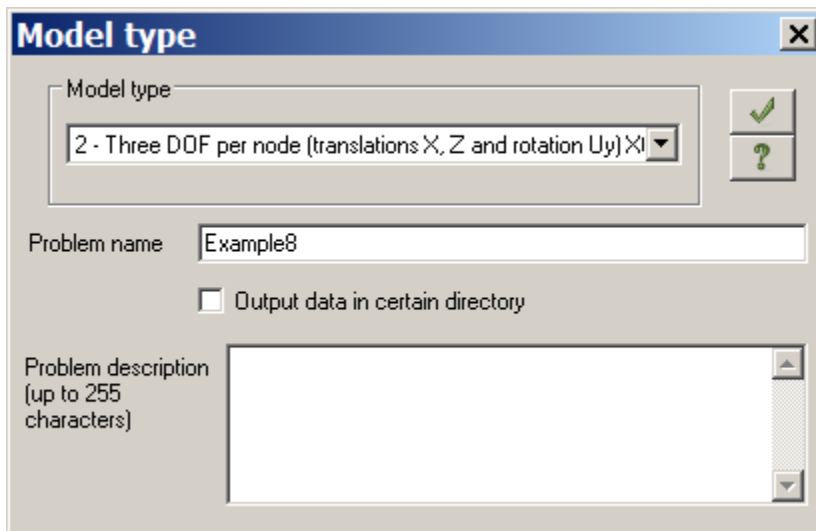

Figure 8.2 **Model type** dialog box
- ⇒ In the **Model type** dialog box (see Figure 8.2) specify the following data: